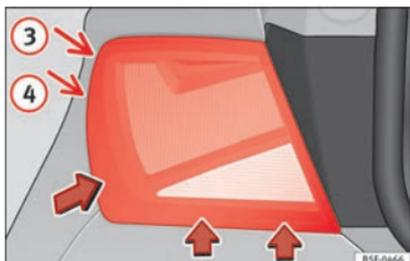

Fig. 218 Remove the rear light unit from side panel.
- Tilt the light in the direction of the arrows until it comes out (positions ③ and ④) » **Fig. 218**.